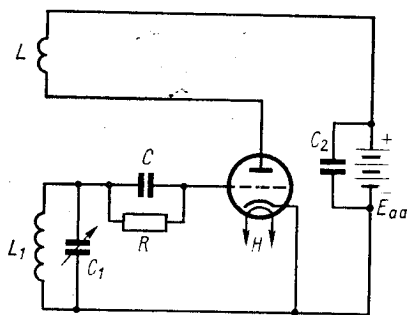

Fig. 19. Tickler feedback oscillator circuit
1. One of the earliest electron tube oscillator circuits is the so-called tickler feedback oscillator. In Fig. 19, the oscillatory tank circuit is made up of L_1 , and C_1 , the source of dc energy is the plate supply voltage, E_{aa} and the feedback circuit consist of the "tickler" coil L , which is coupled to L_1 .
12. The grid-leak resistor R and grid capacitor C in Fig. 19 furnish the negative bias required for the tube's operation. Capacitor C is large enough to provide a low-resistance path to the grid for the excitation signal, and thus bypasses the high-resistance grid leak R .